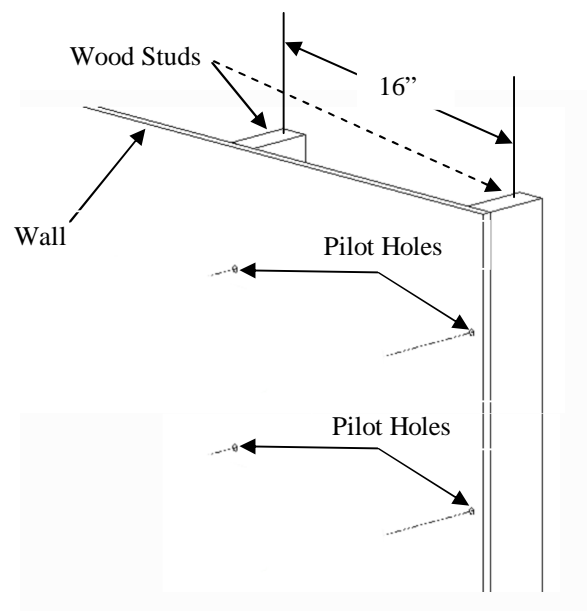

Figure 3. Drill Dual Stud Pilot Holes
- Refer to Figure 3 for dual wood stud mounting, wood studs that are 16" apart on center.